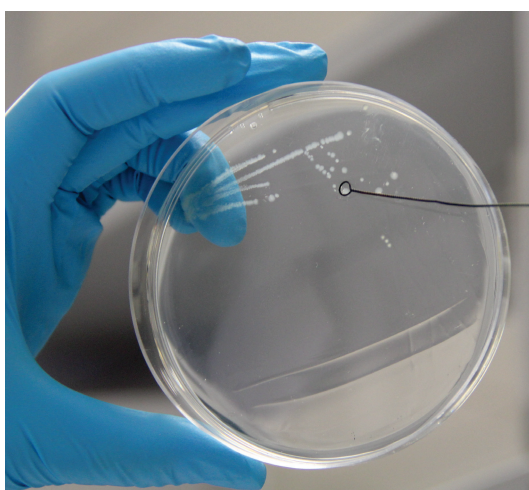
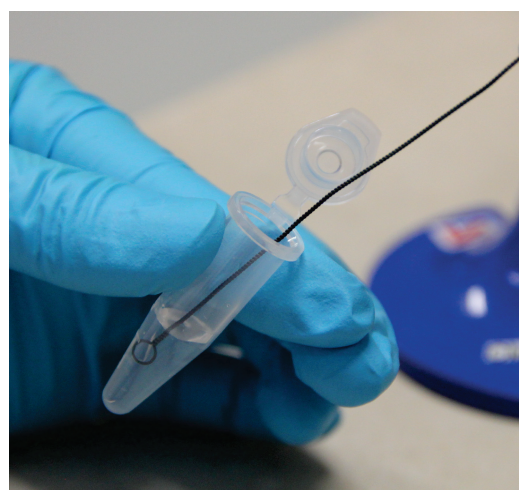

Fig. 10
Fig. 11
5. Using a sterile inoculating loop, aseptically[#] transfer 10 colonies of *E. coli* from the LB agar plate (Fig. 10) to tube “S” (Fig. 11). Using a P1000 micropipette and a sterile tip, pipette the mixture up and down 10 times.